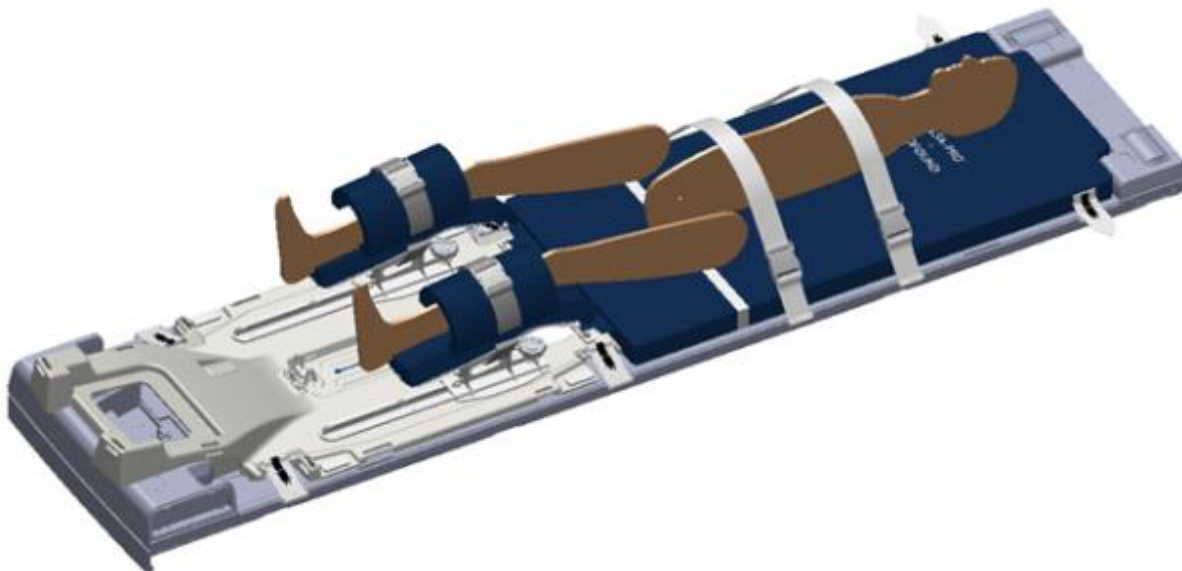

Figure 24: Securing the abdomen and arm straps
2. **MRI Technologist:** Fasten one abdomen-arm strap tightly over the lower abdomen to minimize anterior-posterior breathing motion. Wrap the sheet over the abdomen and place the patient's hands on top. Fasten a second abdomen-arm strap over the arms to help fit the patient into the MRI bore (*Figure 24*, your configuration might not match exactly as shown).